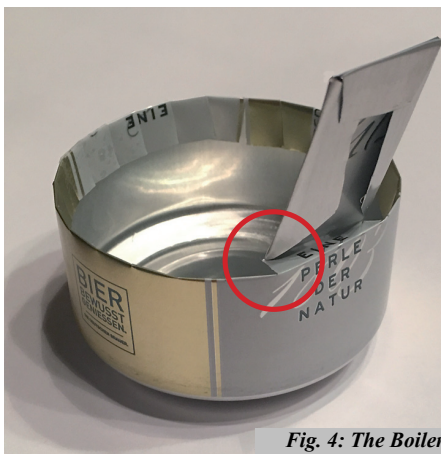

Fig. 4: The Boiler
Step 47: Remove the template and sharply fold inwards all flaps along the rim. Then fold the three larger flaps behind the drip gutter. Now fold the gutter along the rim into the boiler and then back outwards just underneath the flaps behind the gutter. This way the gutter extends a few millimetres into the boiler (see Fig. 4). Finally bend the gutter a bit rounder so that all drips will safely run back into the boiler.